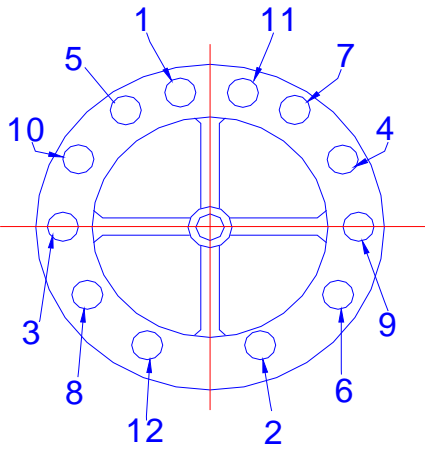

Figure 1. Bolt Torque Sequence
8. The torquing of the flange bolts should be done in several graduated steps, using the number sequence shown in Figure 1. This even loading of the flange bolts will eliminate concentrated stresses which could fracture the valve's flanges